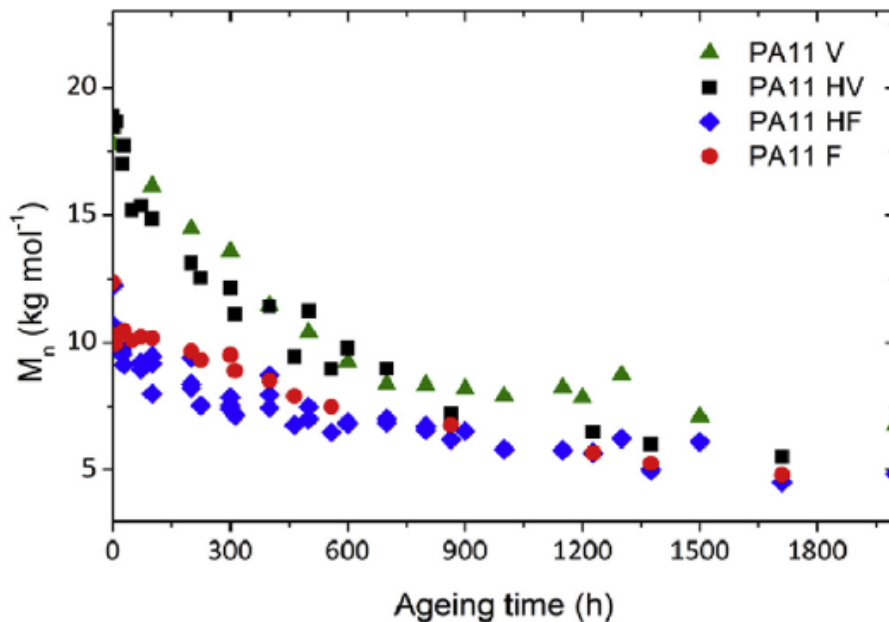
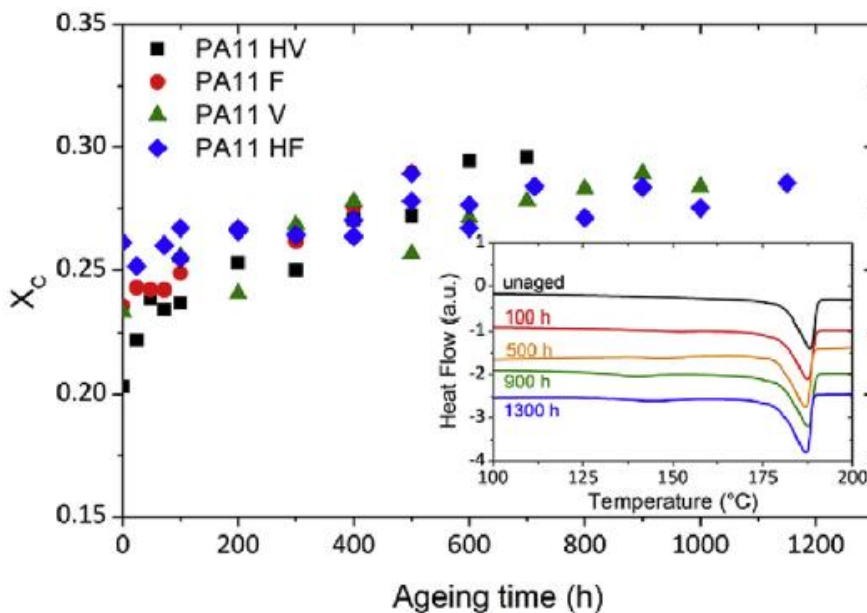

Fig. 1. M_n changes during air ageing at 110 °C for unstabilized PA11 film samples.
Fig. 3. Some thermograms for PA11 V during air ageing at 110 °C and the changes of crystallinity ratio for unstabilized polyamide 11 films.
1. Décrivez les modifications macromoléculaires qui ont lieu pendant le vieillissement du PA 11V (figure 1 et figure 3)